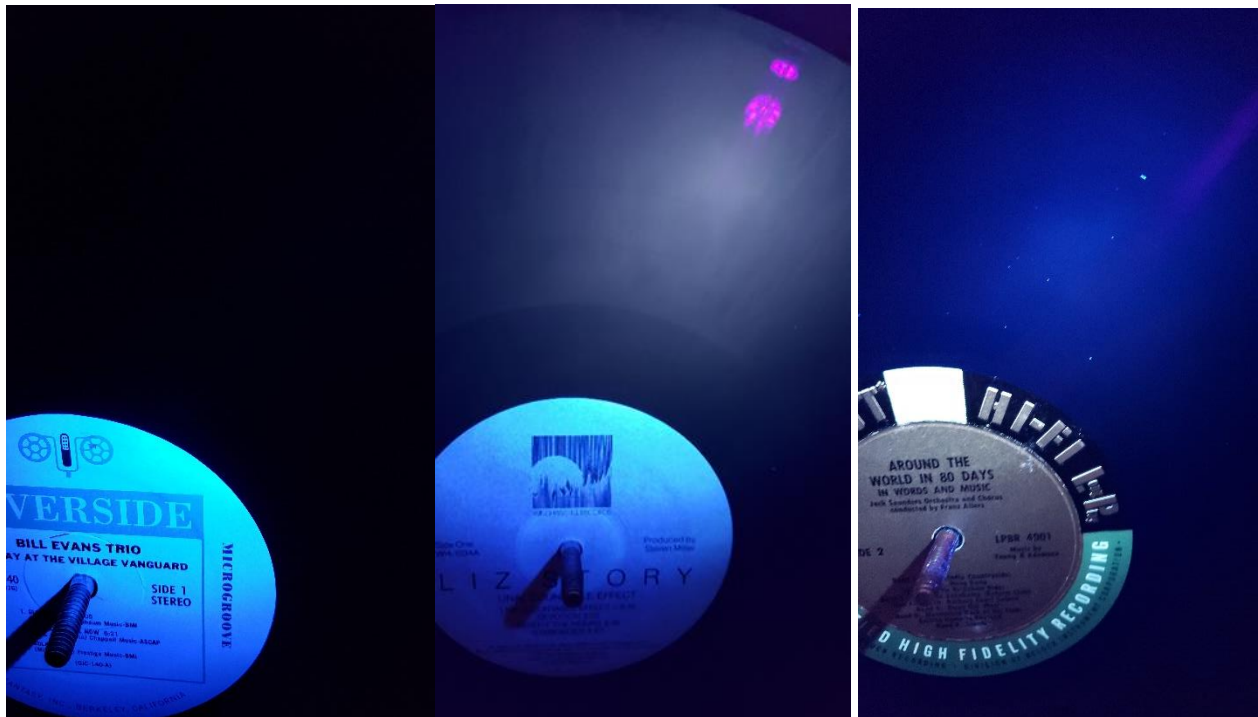

Figure 41 – Records Inspected UV Light – Pigment Variations
X.1.7 **Fluorescence:** Viewing records under UV light can show variations in the composition and maybe pressing quality with materials fluorescing different colors; see - [A summary of ultra-violet fluorescent materials relevant to Conservation - Australian Institute for the Conservation of Cultural Material \(aiccm.org.au\)](http://www.aiccm.org.au). Different pigments will view differently under UV light as indicated in **Figure 41**. Depending on the exact black pigment used, records under UV light can lightly fluoresce with a bluish or brownish type color or appear as just black where the UV light is absorbed. The three records in **Figure 41** vary left to right circa 2000, circa 1980's and circa late 1950's. Recent records appear to now be using black pigments that absorb UV light. The carnauba and paraffin waxes used as "Lubricant" and the ESO-Modifier if excessive may fluoresce with long-wave (365 nm) UV lights, and this may be the source of some of the fluorescence noted in records illustrated **CHAPTER IV. RECORD INSPECTION:**